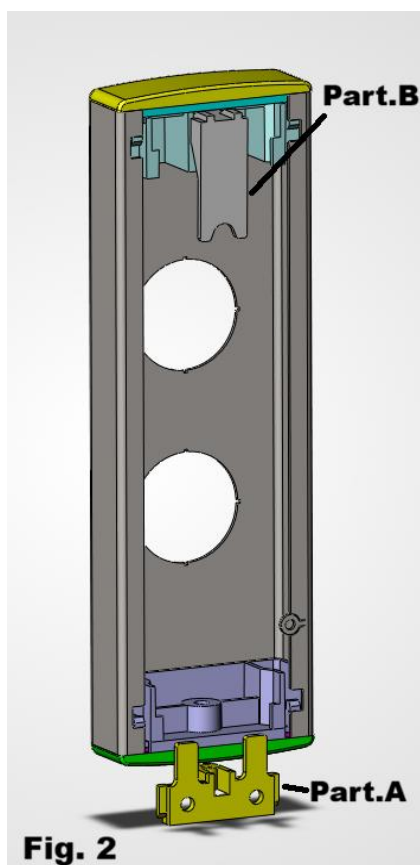

Fig. 2—Fixture with Part.A (Lower bracket) and Part.B (Tailpiece)
3. Take the "Tailpiece" (Part B) and insert it into the corresponding slot on the upper end of the fixture (Fig. 2.).